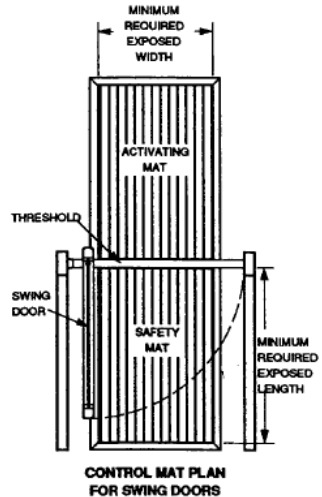

Figure 2
- 2 It is necessary to have a safety mat covering the entire area the door swings over. Step through the doorway onto the safety mat and remain motionless for four seconds. The door should remain open. Repeat at several locations on the mat, see Figure 2.